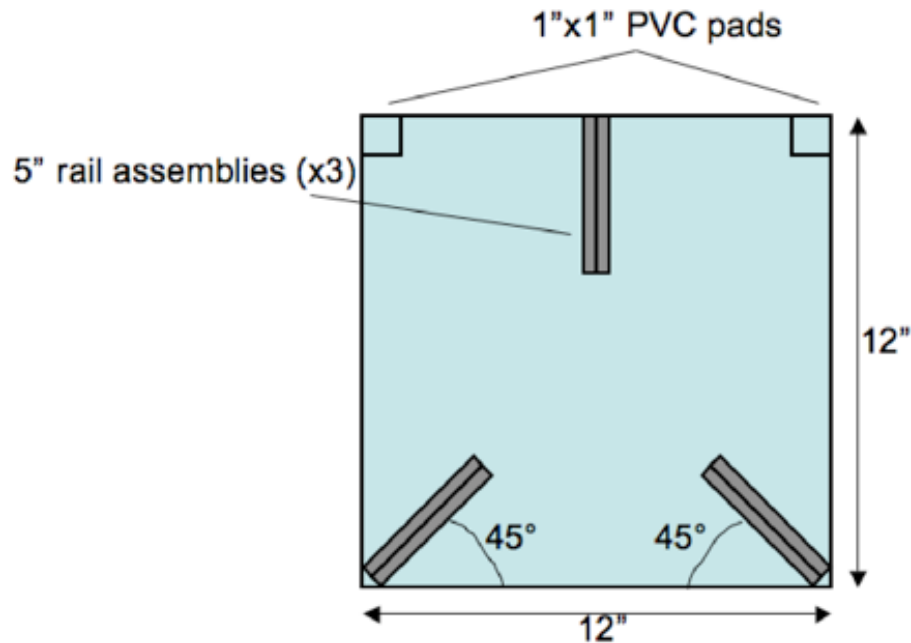

Figure 2: Basic geometry of competition truss and performance metric
1. The only contact the structure may have with its surroundings is at distinct points on the provided base plates as detailed in Figure 2. The structure must have either 3 points of contact (three balls on three rails) or 4 points of contact (two balls on two rails and two balls on two pads).
- 1/2" diameter steel balls (30) with chrome plating